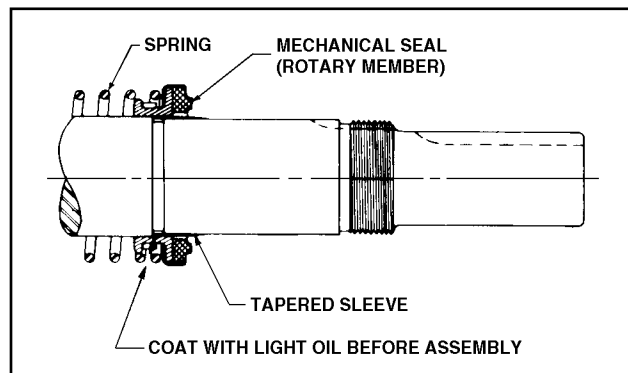

Figure 23
4. Place tapered installation sleeve on shaft. Refer to Figure 23. Sleeve is furnished with GG, AS, AK, and AL replacement mechanical seals. Coat rotor shaft, tapered installation sleeve, and inner diameter of mechanical seal rotary member with a generous amount of refrigeration oil. Petrolatum may be used but grease is not recommended.